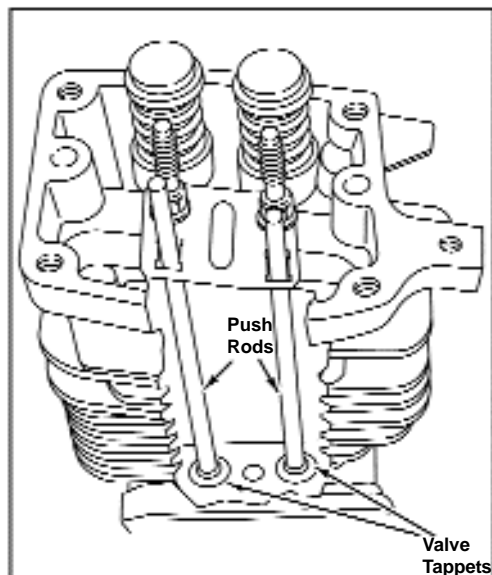

Figure 96 - Installing Push Rods
1. Install push rods through push rod guide making sure push rods are in valve tappets, Figure 96.